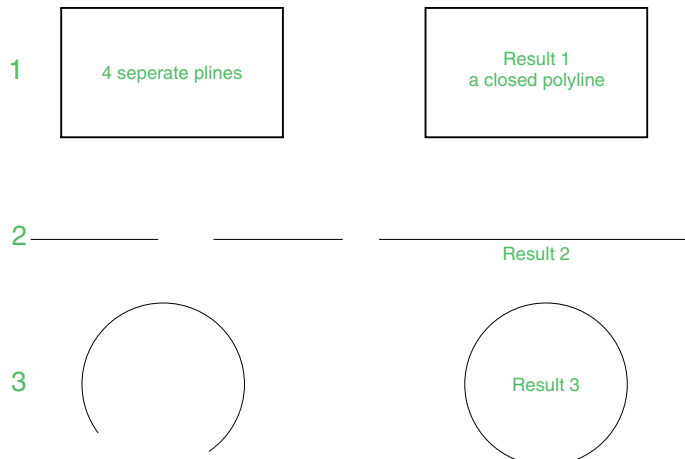

Fig. 5.38 Examples – **Join**
Examples – Join (Fig. 5.38)
1. Construct a rectangle from four separate plines – drawing 1 of Fig. 5.38; construct two lines – drawing 2 of Fig. 5.38 and an arc – drawing 3 of Fig. 5.38.
The results are shown in Fig. 5.38.